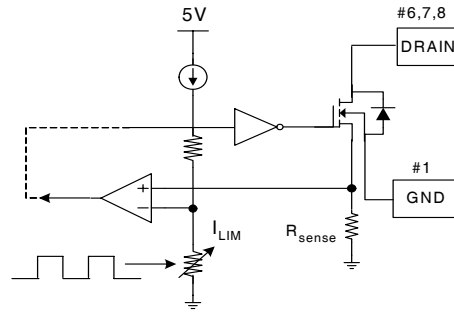

**Figure 6. Over Load Protection (OLP)**
**4.1 Over Load Protection (OLP):** Overload is defined as the load current exceeding a pre-set level due to an unexpected event. In this situation, the protection circuit should be activated in order to protect the SMPS. However, even when the SMPS is operating normally, the Over Load Protection (OLP) circuit can be activated during the load transition. In order to avoid this undesired operation, the OLP circuit is designed to be activated after a specified time to determine whether it is a transient situation or an overload situation. In conjunction with the  $I_{pk}$  current limit pin (if used) the current mode feedback path would limit the current in the Sense FET when the maximum PWM duty cycle is attained. If the output consumes more than this maximum power, the output voltage ( $V_o$ ) decreases below its nominal voltage. This reduces the current through the optocoupler LED, which also reduces the feedback voltage ( $V_{FB}$ ). If  $V_{FB}$  exceeds 3V, the feedback input diode is blocked and the  $5\mu A$  current source ( $I_{DELAY}$ ) starts to slowly charge  $C_{fb}$  up to  $V_{CC}$ . In this condition,  $V_{FB}$  increases until it reaches 6V, when the switching operation is terminated as shown in Figure 6. The shutdown delay time is the time required to charge  $C_{fb}$  from 3V to 6V with  $5\mu A$  current source.